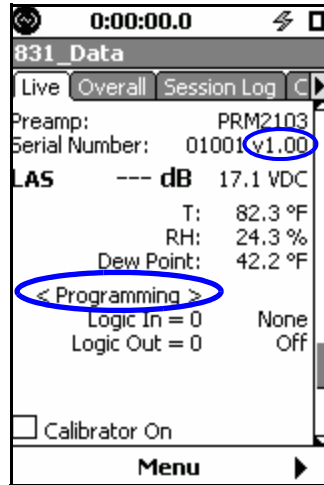

FIGURE 3-21 PRM2103-FF Firmware Upgrade
Step 3 On the Model 831, navigate to the **Preamp** page on the **Live** tab. The **Preamp** page displays a “programming” message when the firmware is updating, as shown in FIGURE 3-21.
The **Preamp** page displays the new firmware version number after programming is complete, as shown in the top highlighted area in FIGURE 3-21.